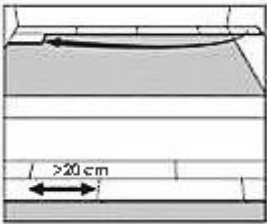

Figure 2
10. Begin the second row with the cut piece from the first row (Figure 2). If the cut piece is shorter than 20 cm (8 in), do not use it. Instead, begin with a new plank that is at least 20 cm in length and allows 20 cm between the end joints on the adjacent planks.
11. Position the first plank of the second row by angling it up slightly, pushing forward and interlocking the side tongue (**Figure 2**). Slide the plank to the left to align the edges of the end joint.